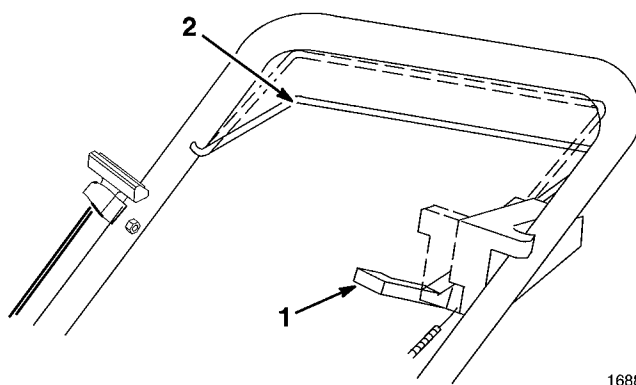

Figure 12
5. To disengage self-propelled drive, lower control bar halfway and move traction control lever forward (toward engine) (Fig. 12).